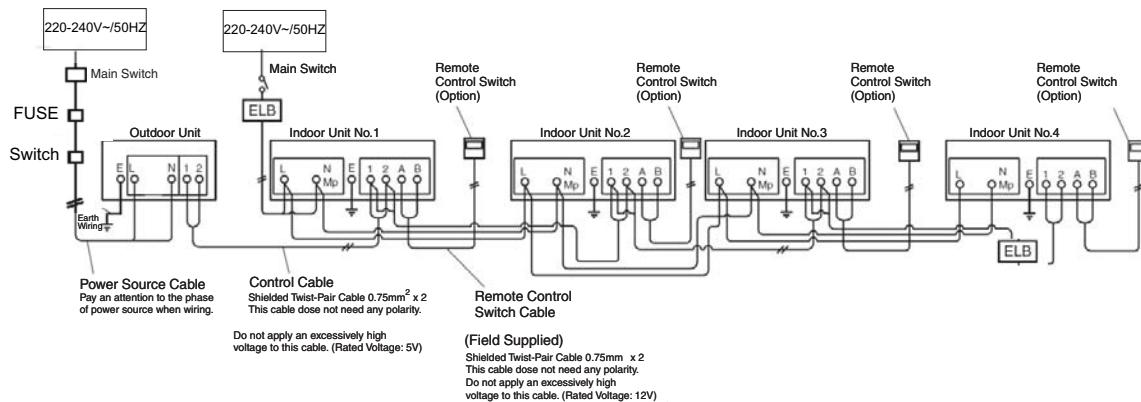
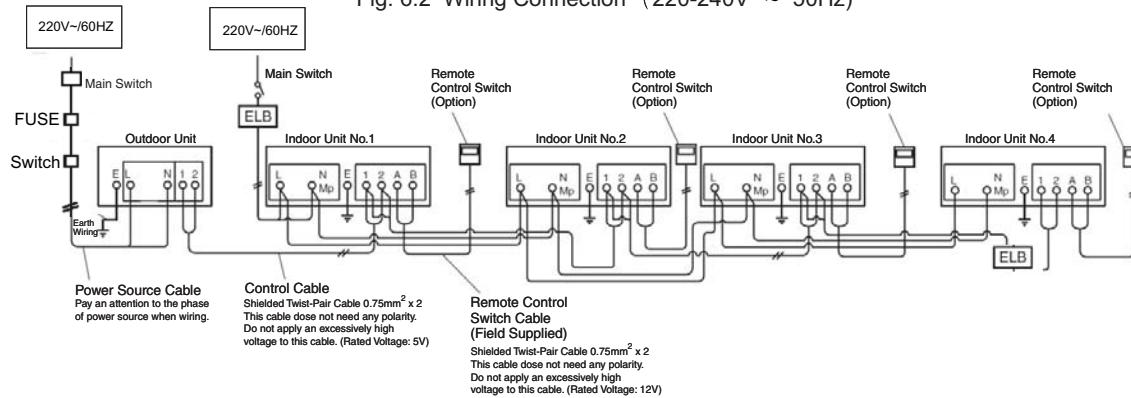
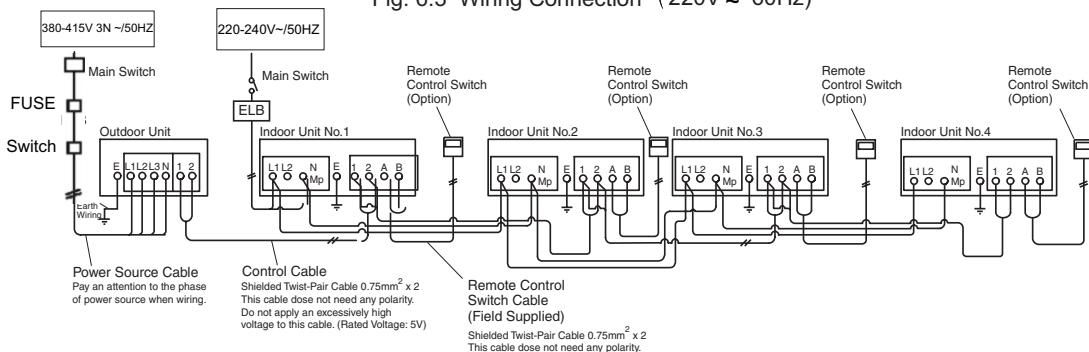
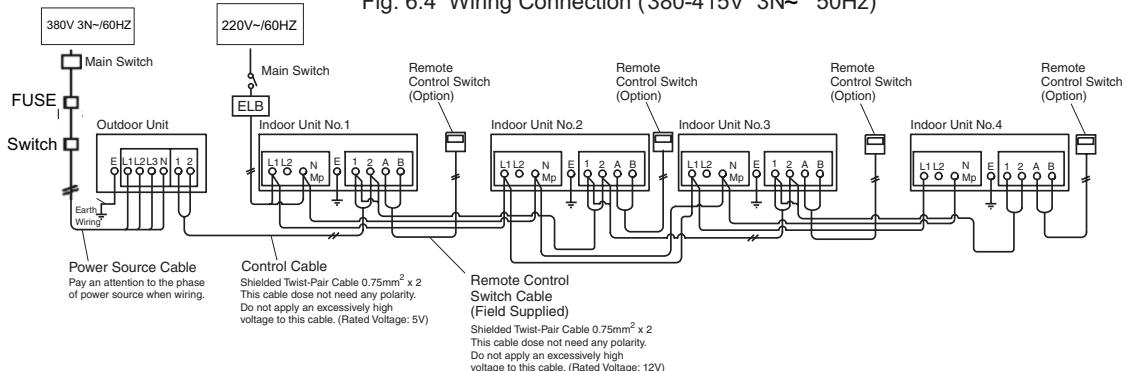

Fig. 6.2 Wiring Connection (220-240V ~ 50Hz)
Fig. 6.3 Wiring Connection (220V ~ 60Hz)
Fig. 6.4 Wiring Connection (380-415V 3N~ 50Hz)
Fig. 6.5 Wiring Connection (380V 3N~ 60Hz)
In addition, connect the earth wire to earth screw in the electrical control box of indoor unit. Refer to Fig. 6.2-Fig.6.5
(5) Connect the electrical wires between the indoor unit and the outdoor unit, as shown in Fig. 6.2, Fig. 6.3, Fig. 6.4 and Fig. 6.5. Check to ensure that the terminal for power source wiring of each terminal board: AC220-240V between the indoor unit and